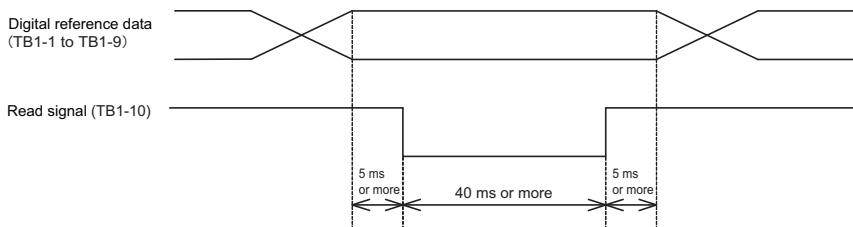

Fig. 4 Reading the digital reference signal
* When TB1-10 is set to 1, the input signal is read as the digital reference. To accept the digital reference signal, a jumper should be placed to short TB1-10 and TB1-11 as shown in Fig. 4. For applications that perform a continuous read, a jumper must be placed between TB1-10 and TB1-11.